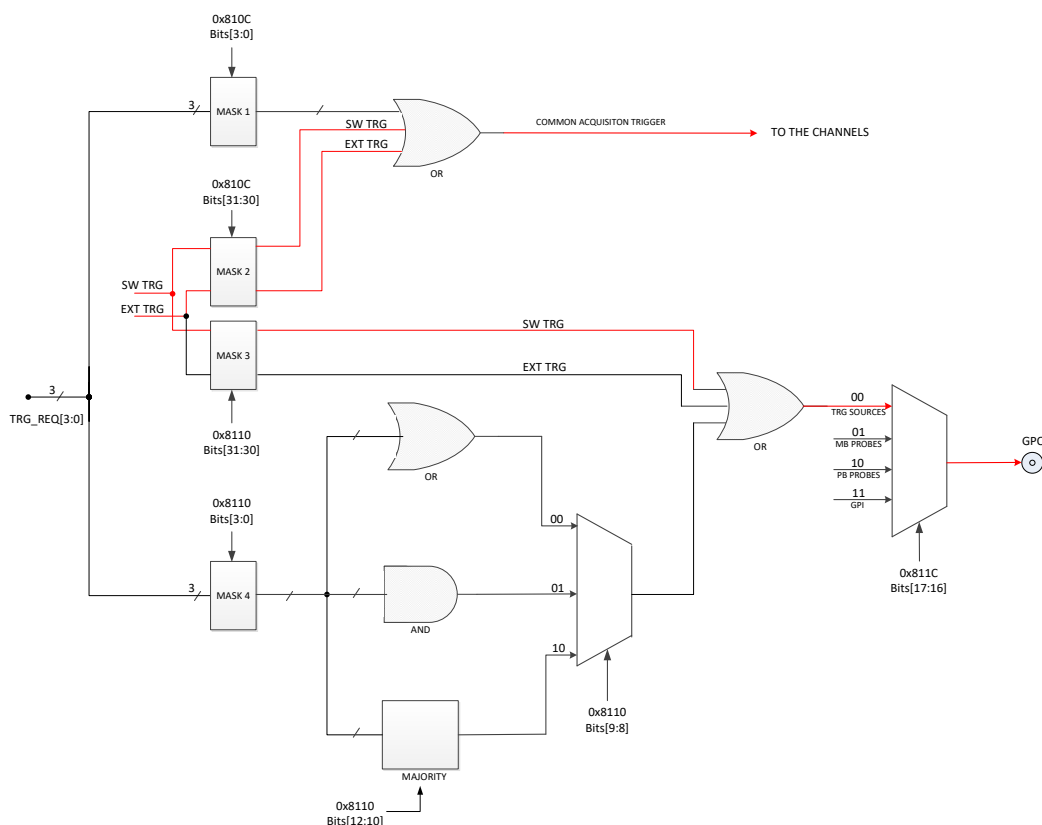

Fig. 10.19: Trigger configuration on GPO front panel output connector
As described in Sec. **Waveform Recording** Trigger Management, the OR of all the enabled trigger sources, synchronized with the internal clock, becomes the common trigger of the board that is fed in parallel to all channels, consequently provoking the capture of an event. By default, only the Software Trigger and the External Trigger participate in the common acquisition trigger (refer to the red path on top of **Fig. 10.19**).
Thanks to its configurability (see **Fig. 10.19**), GPO can propagate:
- the OR of all the enabled trigger sources (only the Software Trigger is provided by default, as in the red path of **Fig. 10.19**);